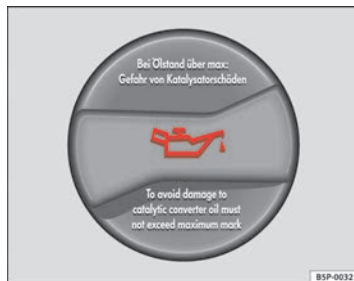

Fig. 123 In the engine compartment: Engine oil filler cap
- Unscrew cap from oil filler opening ⇒ fig. 123.